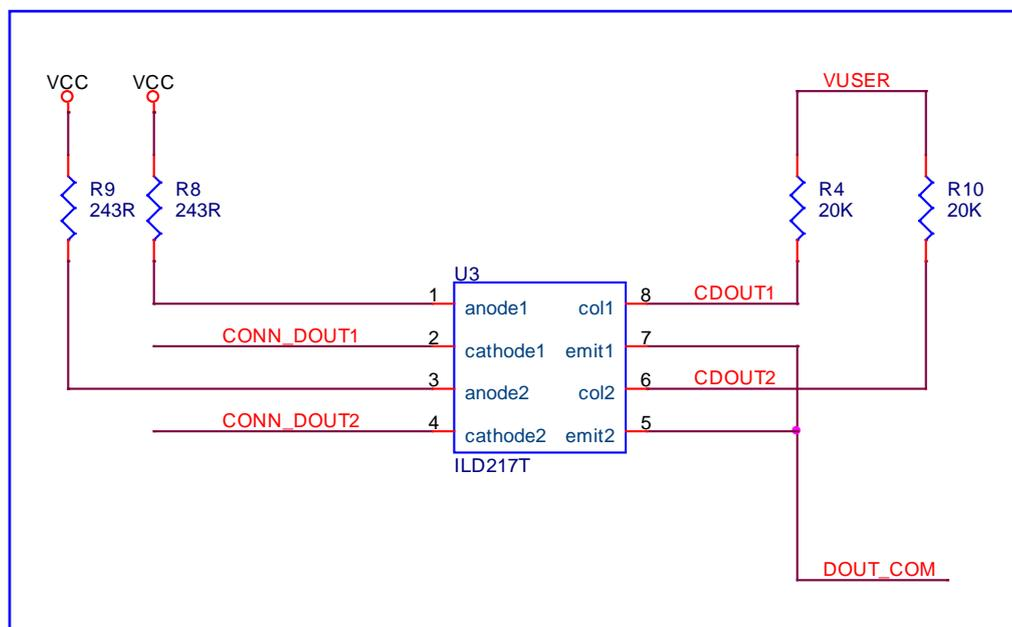

Figure 29: Typical Optically Isolated Digital Output Interface
- When AB1A driver is on axis X, Dout1 is a General Purpose Digital Output on the I/O connector (see Figure 29).
- When AB1A driver is on axis Y, Dout2 is a General Purpose Digital Output on the I/O connector (see Figure 29).
The schematic diagram in Figure 29 below shows the electrical interface of the isolated digital outputs.